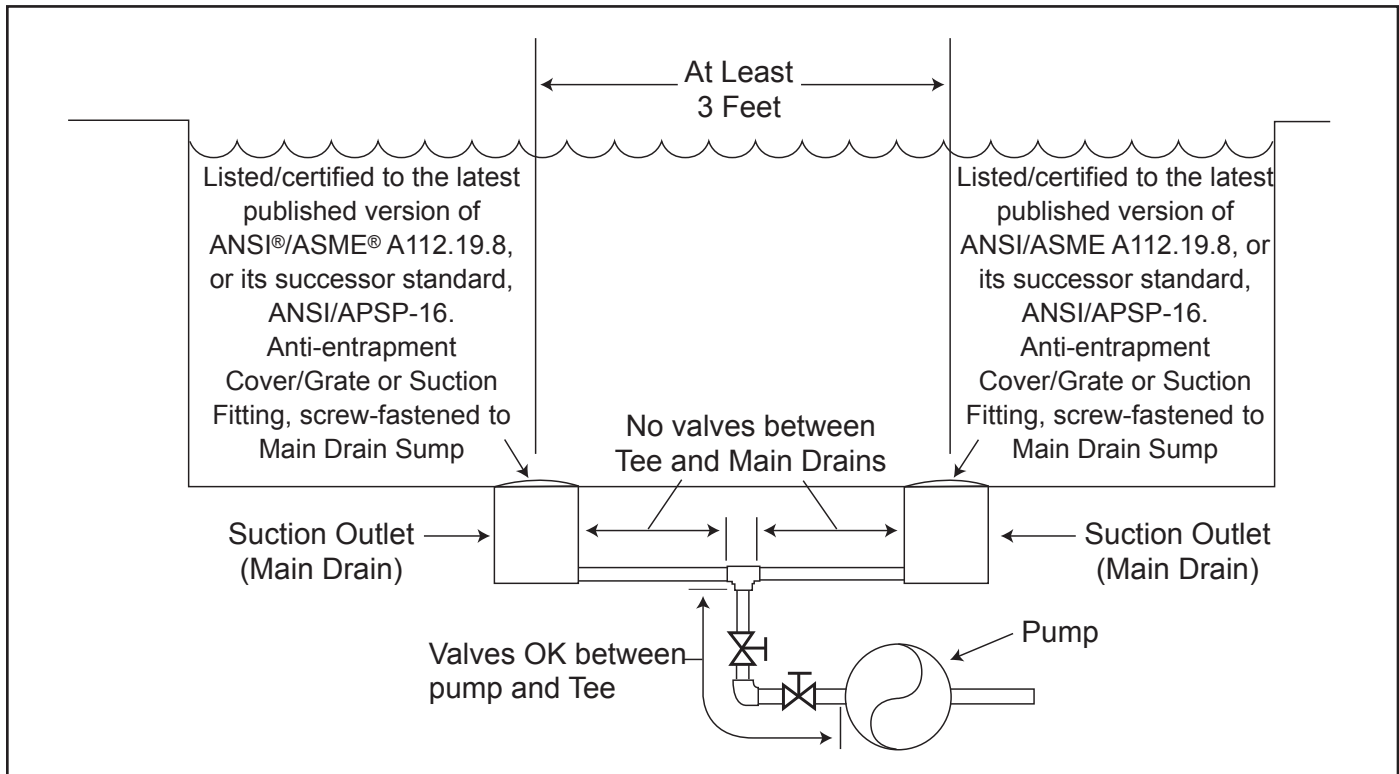

Figure 1. Number of Suction Outlets Per Pump
Number of Suction Outlets Per Pump - Provide at least two (2) hydraulically-balanced main drains, with covers, as suction outlets for each circulating pump suction line. The centers of the main drains (suction outlets) on any one (1) suction line must be at least three (3) feet apart, center to center. See Figure 1.
The system **must** be built to include at least two (2) suction outlets (drains) connected to the pump whenever the pump is running. However, if two (2) main drains run into a single suction line, the single suction line may be equipped with a valve that will shut off both main drains from the pump. The system shall be constructed such that it shall not allow for separate or independent shutoff or isolation of each drain. See Figure 1.